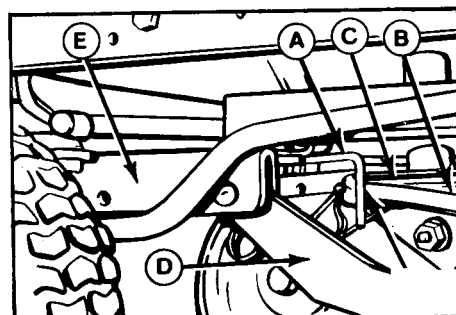
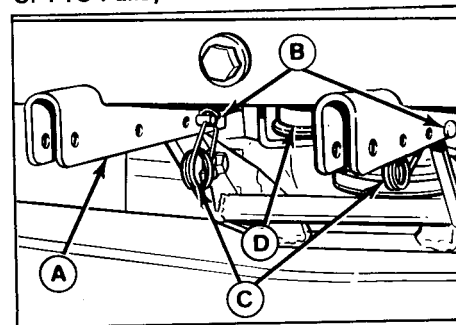
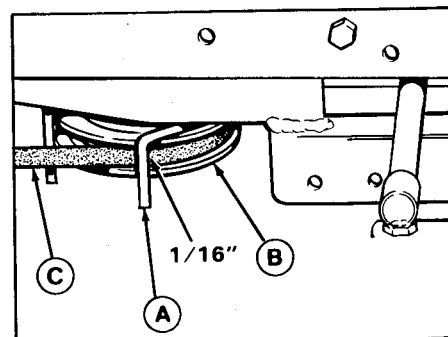

Figure 3. L.H. Belt Stop - All Mowers
Figure 4. Mower Hitch Attached
Figure 5. R.H. PTO Pulley Belt Stop, - 36" Mower
9. Insert the mower hitch arms in the tractor hitch (figure 3). Align the holes in the hitch arms with the rear holes in the tractor hitch. Insert the pins (B, figure 4) from the outside and install the clips (C).
10. Slip the mower drive belt onto the engine PTO pulley (C, figure 3) loosening belt stops as necessary. The left-hand belt stop is item A in figure 3. The right-hand belt stop is shown in figure 5 (36" mower) or figure 6 (42" mower).